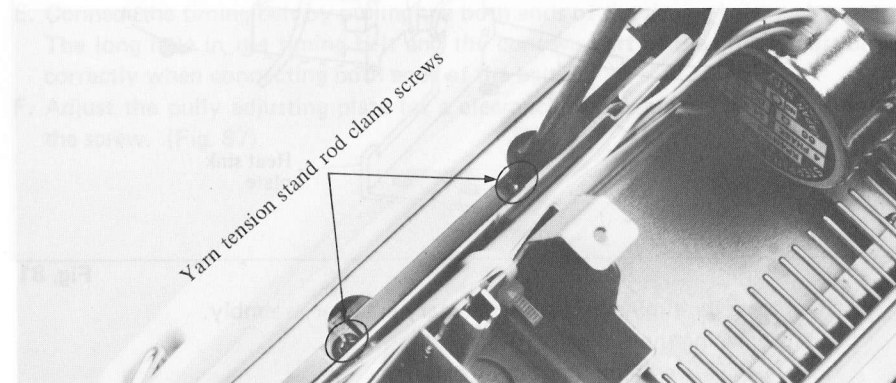

Fig. 80
- 4). Remove the two yarn tension stand rod clamp screws, one pattern case setting plate clamp screw and one carrying case reinforcing clamp screw. (Fig. 80)